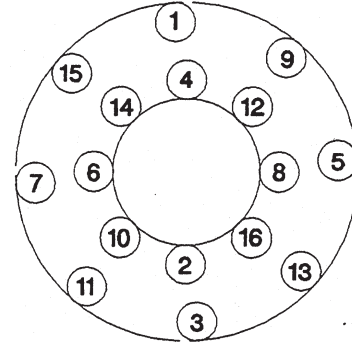

Figure 12
4.5.8 For each wear plate being replaced, follow the tightening sequence shown in Figure 12 for the first 16 screws. The remaining screws may be tightened in any reasonable cross-wise pattern. See Table 12 for tightening torques.